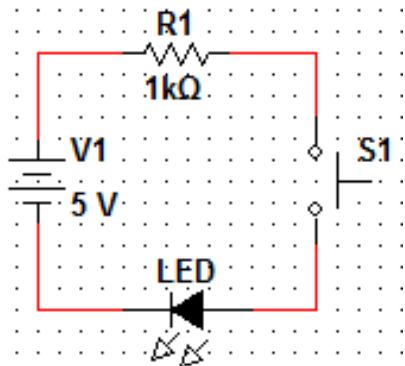
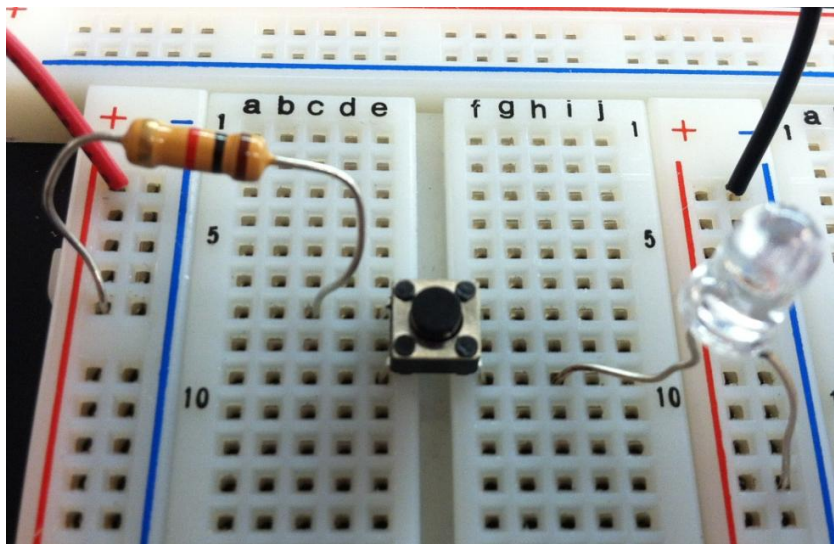

Figure 2: Simple circuit schematic using switch to turn on/off LED
Figure 3: Simple circuit using pushbutton to turn on/off LED
- Turn the output of the power supply off and build the circuit represented in Figure 2. Use Figure 3 as a reference. Note that the four-terminal switch that we are using has been abstracted to a two-terminal switch for simplicity.